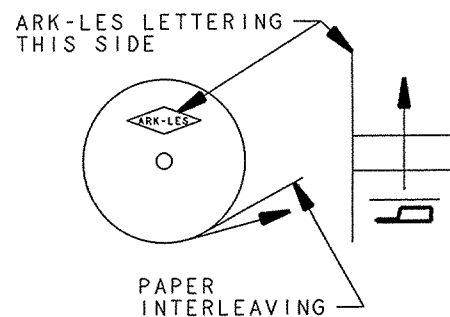

FIGURE 2
- FOR THROUGH SPLICES USED IN BENCH APPLICATOR, THE PART NUMBER REMAINS THE SAME AS IN THE TABLE (I.E. 3800S 375A-3). FOR REELING SEE FIGURE 2.
- FOR PIGTAIL & THROUGH SPLICE USED IN NARROW-LINE AIR PRESS, THE PART NUMBER REMAINS THE SAME AS IN THE TABLE (I.E. 3800S 375A-3). FOR REELING SEE FIGURE 2.
- A. (1) STRANDED WIRE
- (2) MAGNET WIRES
- B. (2) MAGNET WIRES NOT EXCEEDING 2 1/2 WIRE SIZES DIFFERENCE (I.E. 18 & 20 1/2)
- C. (3) MAGNET WIRES UPON ARK-LES CONFIRMATION